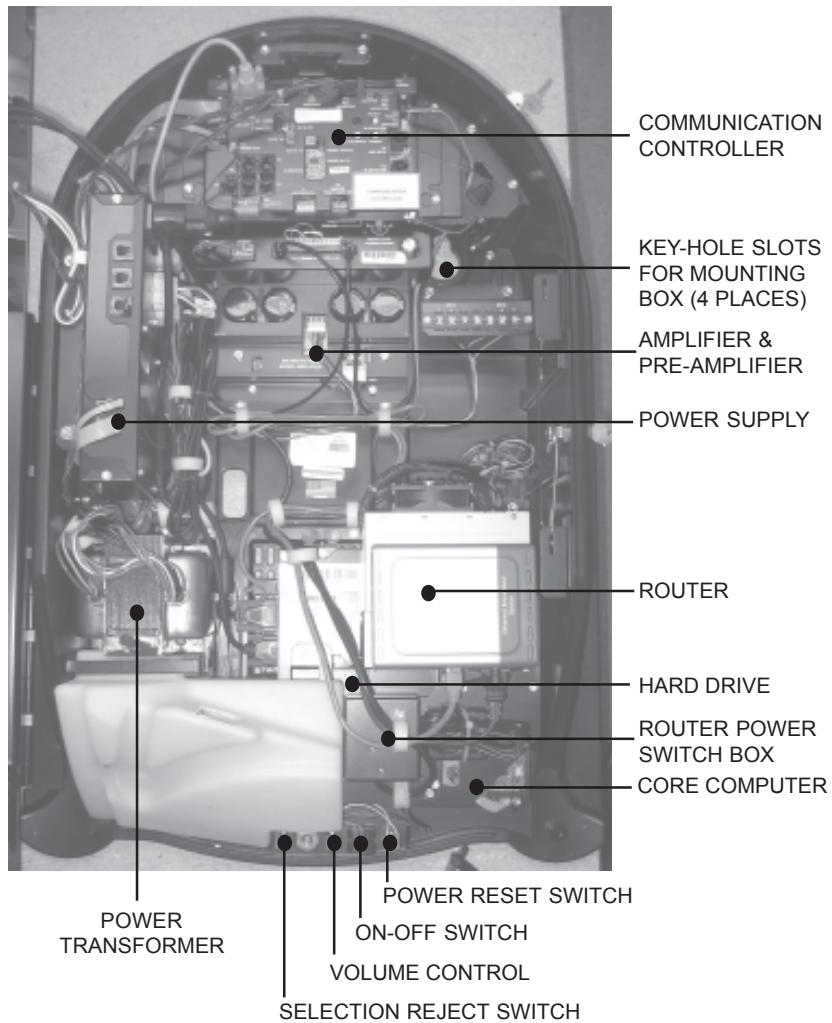

FIGURE 1-5 - MAJOR COMPONENTS
*Figures 1-5 and 1-6 show the major components of the MoD BoX Jukebox. Take a minute to familiarize yourself with these components.*